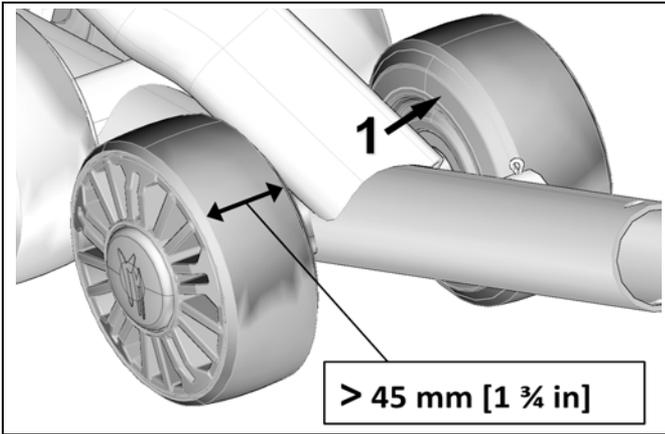

Figure 33
Verify wear on wheels especially on the interior guidance strip (Figure 33). The wheel must be replaced if the inner surface (1) is perforated or when the wheel's rolling band narrows to less than 45 mm wide. A wheel that is excessively worn will not offer enough support to guide the track.